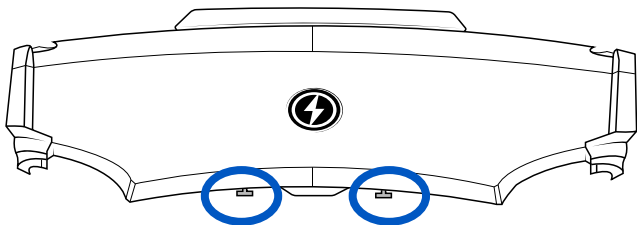

Figure 14 - Location of hood latches
1. Stand in front of the vehicle and locate the release latches (**Figure 14**) on each side of the front of the hood.